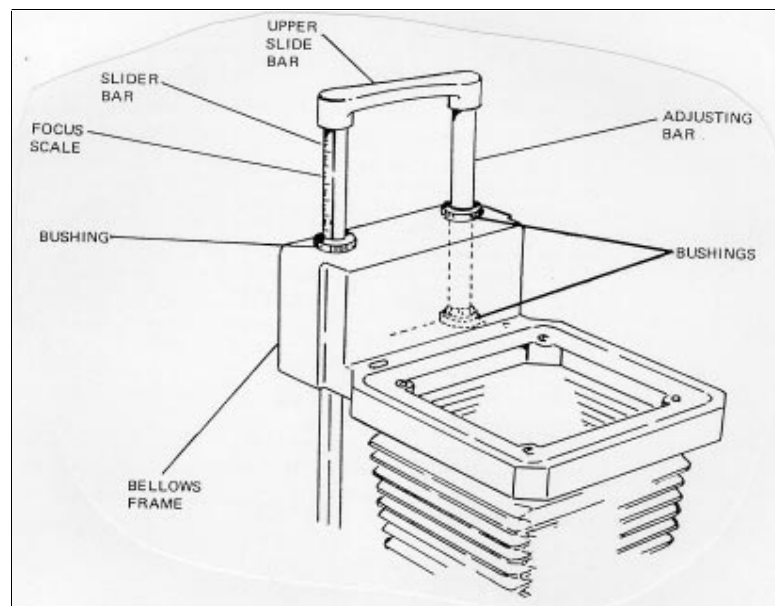

Figure 5-11. Replacement of Focus Scale
4. Replacement of the Focus Scale (Figure 5-11)